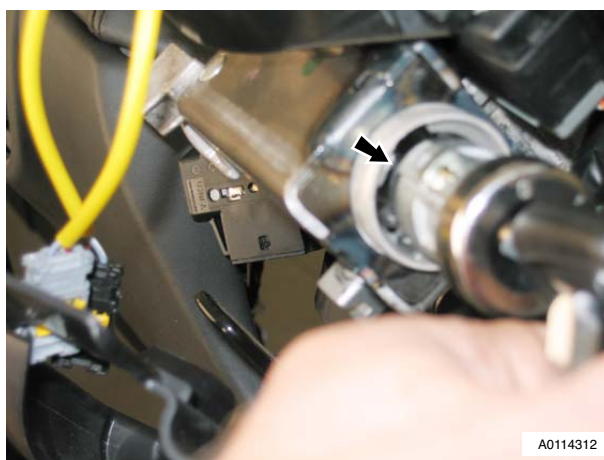

Figure 2
4. Retract barrel by pulling outwards (gently rotate from side to side) with key (see Figure 2).